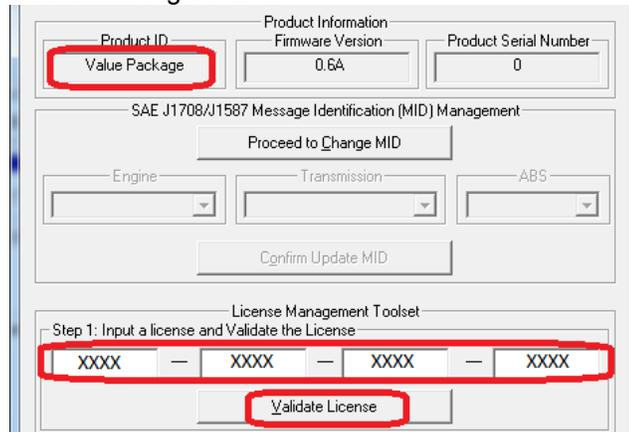
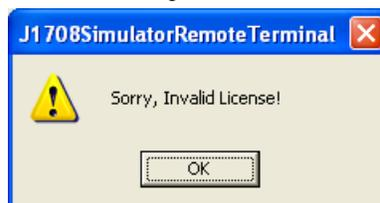

Figure C-3
Figure C-4
4. "About Au J1708/J1587 Simulator" window show up (Figure C-3). Enter a validate license code, and then click "Validate license" button. Note: Each Au J1708/J1587 Simulator will have a unique Serial Number and may have a different Product ID (J1708/J1587 Simulator Edition). If the license code is invalid, an error message will be pop up, as shown in Figure C-4.